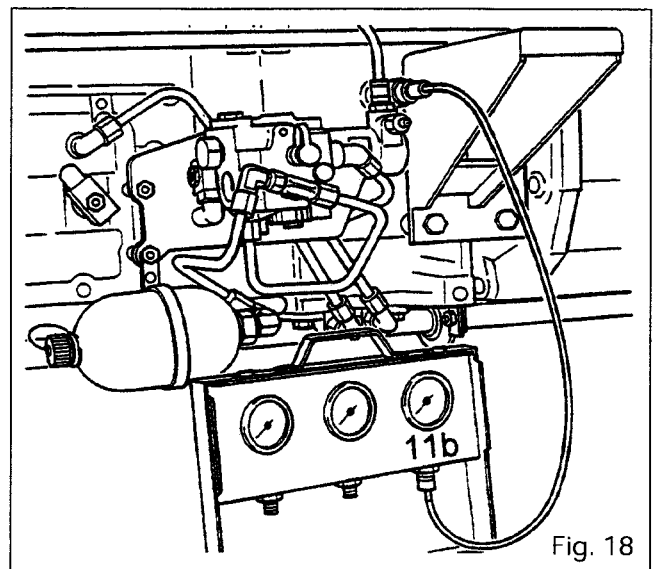

Fig. 18
- If the modulation travel is offset with respect to the pedal travel, the control system must be bled using the bleeder (2) located at the end of the valve (see Section 4A01, § E).
- Connect a pressure gauge to the diagnostic connector located on the right-hand side of the gearbox (Figures 18 and 20) to check **P25**.